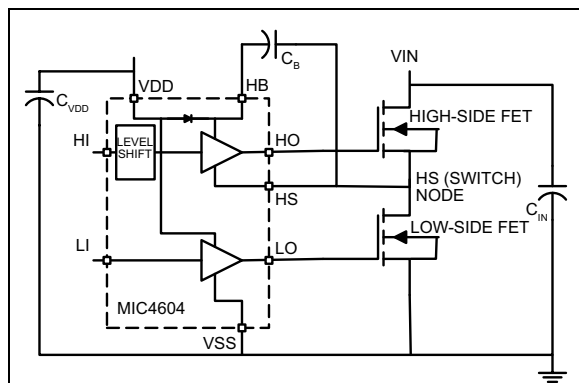

FIGURE 5-11: Synchronous Buck Converter Power Stage.
- Trace out the high d_i/d_t and d_v/d_t paths, as shown in Figure 5-11 and Figure 5-12, and minimize etch length and loop area for these connections. Minimizing these parameters decreases the parasitic inductance and the radiated EMI generated by fast rise and fall times.
A typical layout of a synchronous buck converter power stage (Figure 5-11) is shown in Figure 5-12.